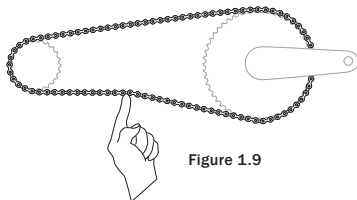

Figure 1.9
- Coaster brake: There should be between 6-12 mm (0.25-0.50 in) total vertical movement in the middle of the chain (Figure 1.9).